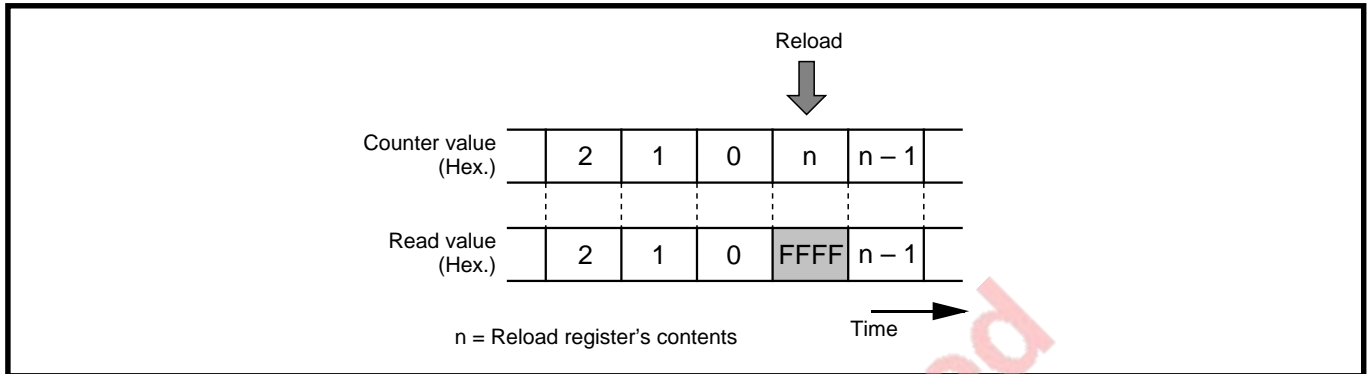

Fig. 7.4.7 Timer Bi register read out
1. While counting is in progress, by reading out the timer Bi register, the counter value can be read at an arbitrary timing. However, when reading is performed at the reload timing shown in Figure 7.4.7, value "FFFF16" is read out. If reading is performed in the period from when a value is set into the timer Bi register with the counter stopped until the counter starts counting, the set value is correctly read out.